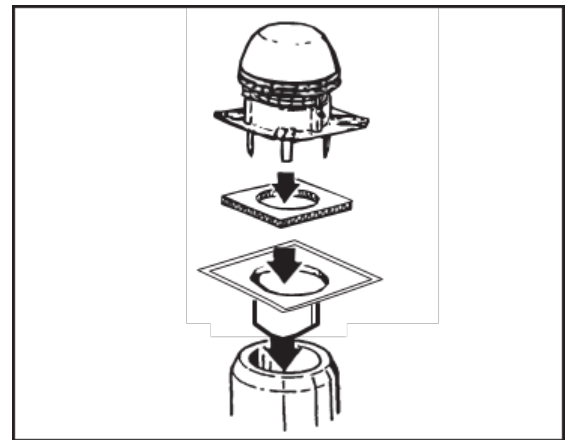

FIGURE 32
7) The chimney fan is now ready for installation on the top of the chimney. Place the fiber mat with the aluminum foil facing upwards on the top of the MFD and place the fan on top of the mat. High temperature silicone can be applied on the side of the mat but is not required. It can also be painted. Use the mounting holes on the fan base as a drill template to make one mounting hole in each corner of the adapter. Use bolts and locking nuts to secure the fan to the MFD. **(Figure 32)**